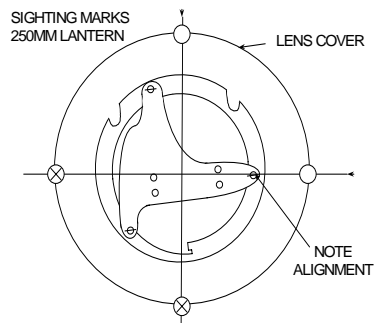

Figure 3-17
- b. With lantern open, look into the lens cover. Check to see if one knob is aligned with sight marks. If not, rotate the lens cover until one of the focus knobs is aligned with one set of sighting marks. See Figure 3-17